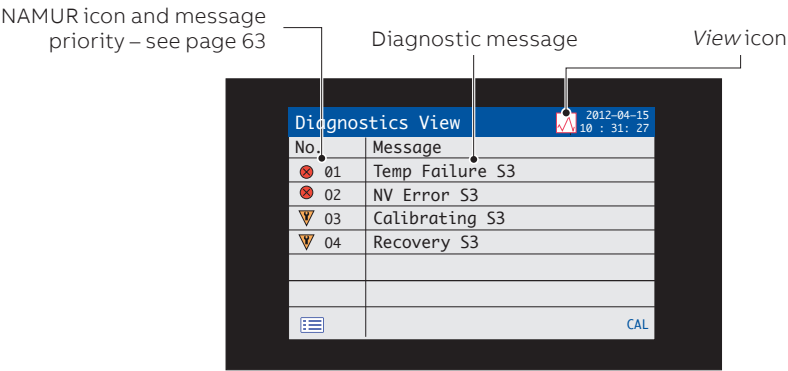

Fig. 6.6 Diagnostics View
- *Diagnostics View* – displays a list of diagnostic messages identified by priority and message – see Fig. 6.6